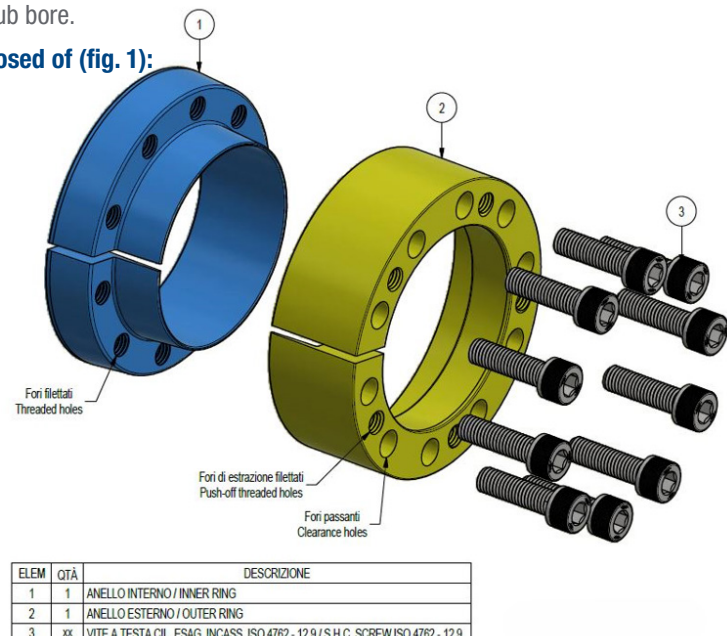

Fig. 1 Composition
**Locking Assemblies are supplied ready for installation and are composed of (fig. 1):**